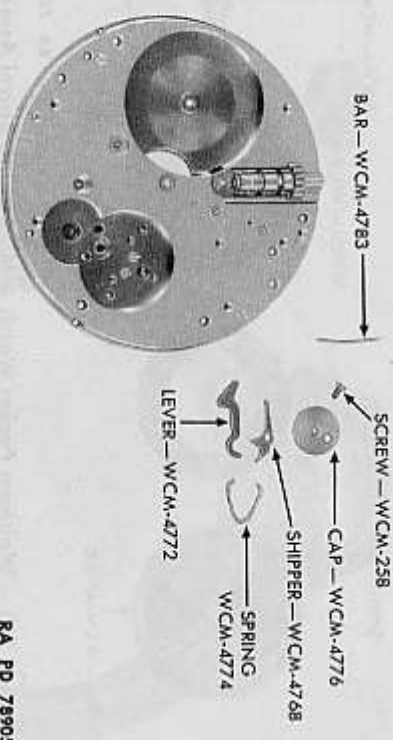

Figure 108 — Waltham Pocket Watch — Winding and Setting Assembly Removed
- q. Remove Shipper Lever, Shipper Spring, and Shipper (fig. 108). Remove shipper cap screw and shipper cap. Place end of left index finger over shipper spring to avoid losing it. Grasp one end of spring with tweezers and lift it upward, freeing spring. Remove shipper lever and shipper.
c. **Replace Shipper Assembly** (fig. 108). Replace shipper and shipper lever in their respective places on the pillar plate. Replace shipper lever spring, hooking one end on the shipper lever; hold it in place with one screwdriver, and spread the spring over the shipper with another screwdriver until it is in position. Replace shipper cap and secure in place with shipper cap screw.